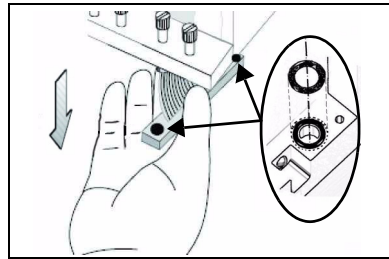

Figure 7-43: O-ring seals on the head housing
16. Inspect the replacement head, and make sure that the O-ring seals are in place (see figure 7-43).